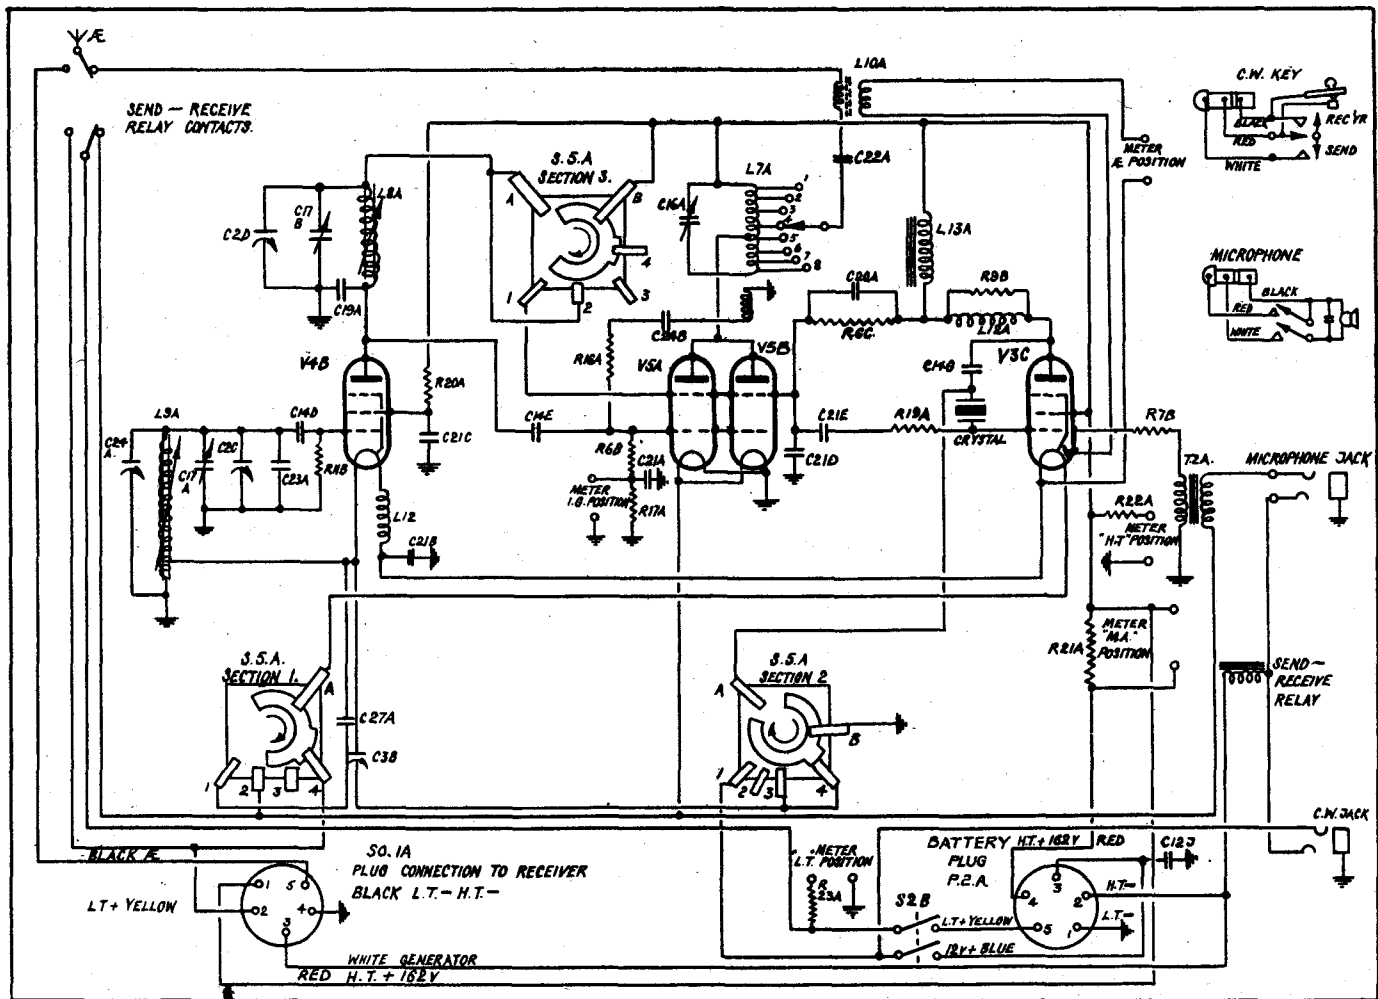
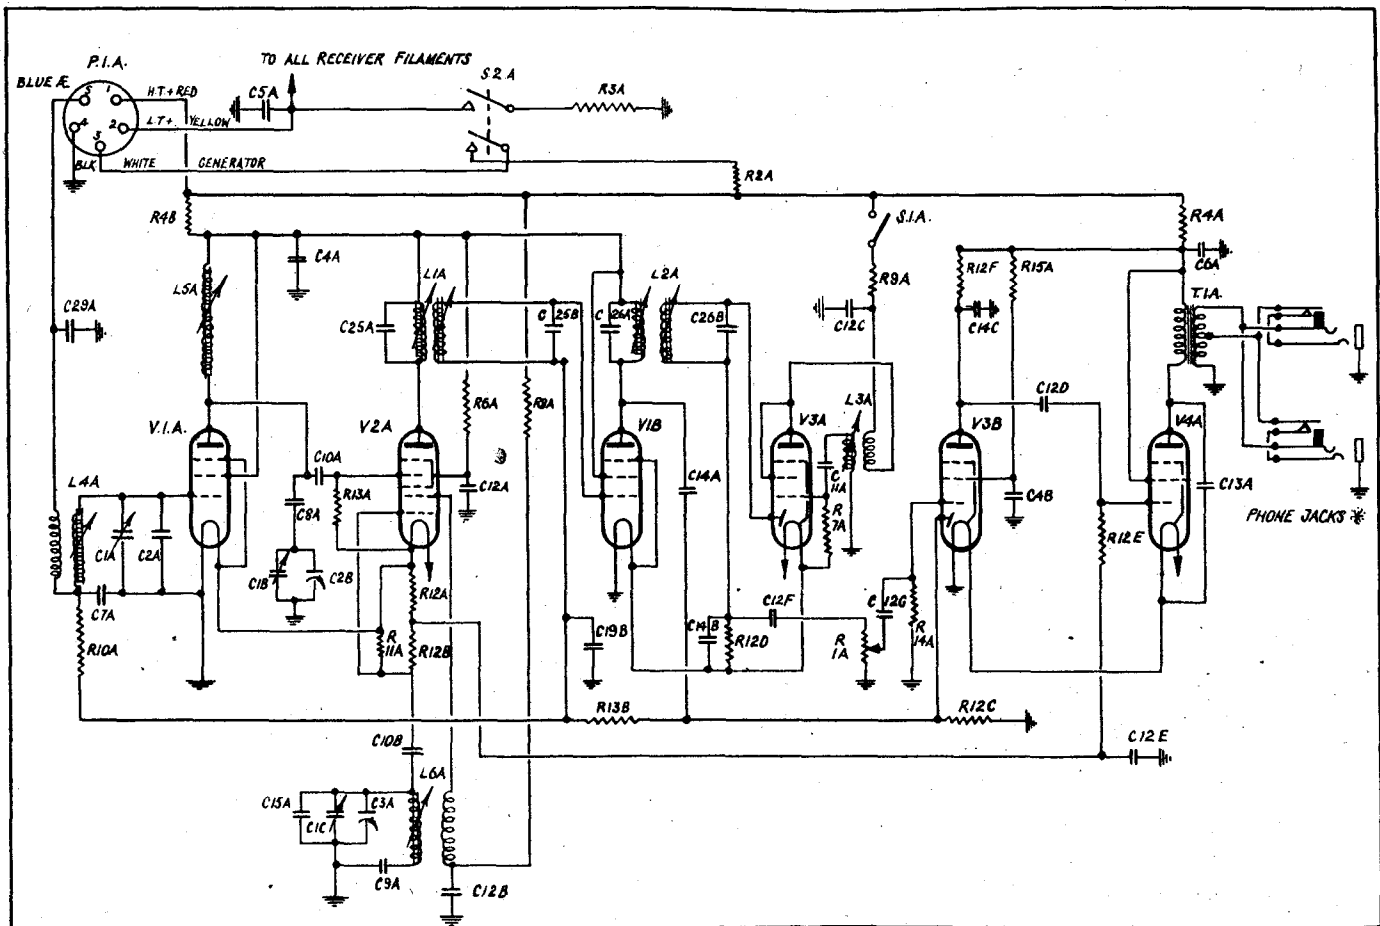

Fig. 3. Schematic diagram of sender.
Fig. 8. Schematic diagram of receiver.
V4B (1A5G7). The amplified oscillatory voltage in the anode circuit is fed to the grids of V5A and V5B. (Two valves 1299 in parallel.) The suppressor grids of these valves are connected direct to the H.T. line, thus short-circuiting the audio frequency modulator stage (fig. 3, Switch S5A, Section 3, contact 1). The oscillatory power in the anode circuit of the P.A. is applied to the aerial through the aerial switch, the blocking condenser, .004μF, and the "make" contact of relay S6A.
11. The C.W. key and its send-receive switch are mounted together on a base and connected by means of a cord and plug to the C.W. jack of the sender (fig. 3). When the send-receive switch is in the sending position the relay S6A is energised, by the 12 V battery, to connect the sender filaments to the 3 V L.T. battery, and the P.A. to the aerial. No signals are sent out until the C.W. key is depressed to connect the earth connection to the battery.
20. The BEAT FREQ OSC switch (S1A, fig. 8) connects the H.T. supply to the anode of the 2nd detector valve for reception of C.W. This is a fixed beat frequency oscillator; a pre-set adjustment of the core of L3A (fig. 3) determines the C.W. note.